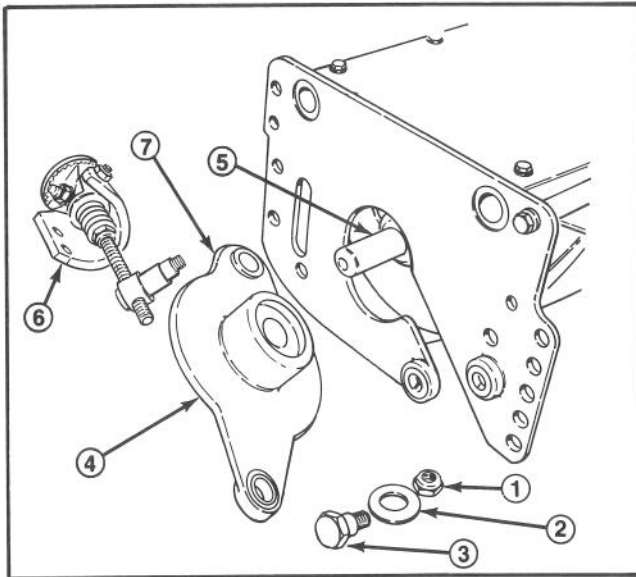

Figure 28
2. Remove the shoulder bolts, bushings and spacers from each end of the unit and remove the bedbar/bedknife assembly (Fig. 28).
3. Disassemble the stainless steel shim, belleville washer and locknut from the adjuster pin, the fasteners for the bracket and remove the adjusting handle assembly from the sideplate (Fig. 28).
4. Disassemble the cone nut from the shoulder bolt securing the bearing housing to the sideplate, remove the belleville washer and bolt and slide the bearing housing off the reel shaft (Fig. 28).
1. Inspect the flange bushings in the mounting holes for the drive housing and bearing housing for wear (Fig. 28). Replace, if necessary.
7. Insert the shoulder bolt through the Belleville washer and rear housing mounting hole. Slide the bolt through the sideplate mounting hole (Fig. 28). Install the cone nut locknut onto the bolt. Tighten the cone nut to 45 - 55 ft.-lbs.